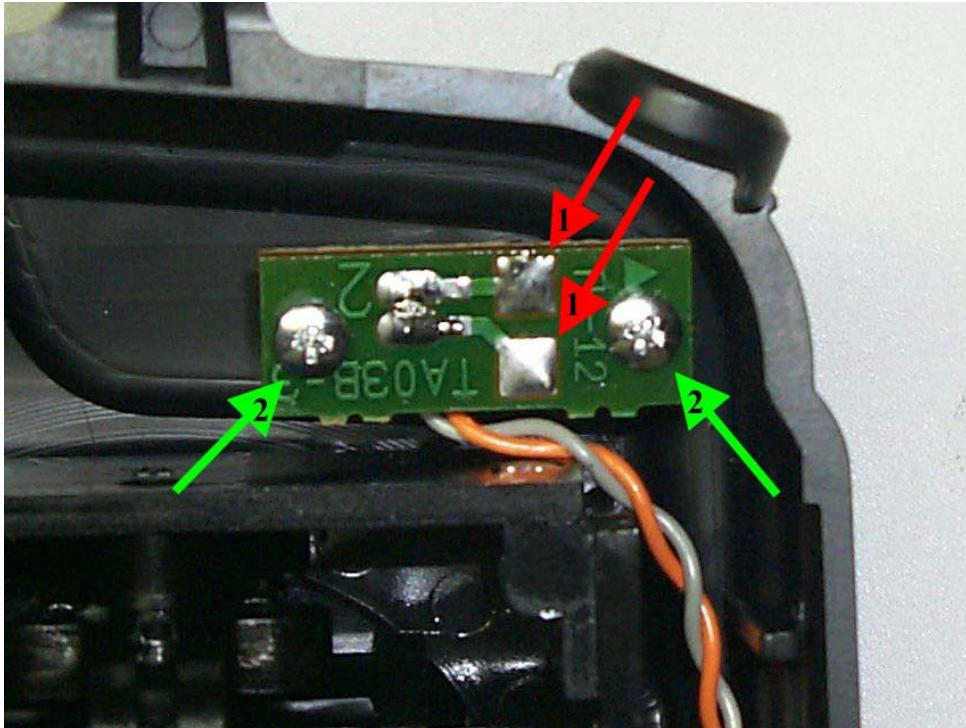

Figure 4 – Close-up of the trainer switch
Flip the transmitter over so you are looking at the back again. You will find the small circuit card holding the trainer switch in the upper right corner (see figure 4). Solder a jumper wire across the two square lands indicated by the red arrows (1). This will hardwire the transmitter into the trainer position, taking its control signals from the buddy connector instead of its joysticks. After soldering the jumper, remove the trainer switch PC card by removing the two screws (green arrows, 2).
Because of the simplicity of the circuit, it is easily wired “point to point” on a small circuit board. The board is not critical and can be a small piece of prototyping board left over from another project. If you don’t have any leftover board, I recommend the Radio Shack board, the holes are grouped together in threes with copper traces, making it easy to interconnect the components (see figure 4 of this appendix). Here’s a board I built: